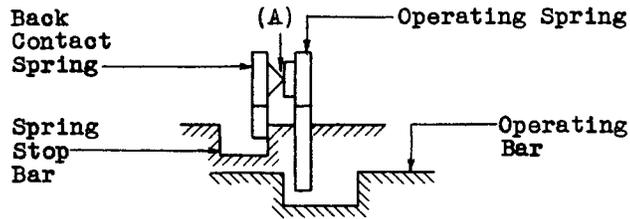

Fig. 15
**2.11 Pressure of Operating Spring Against Back Contact Spring on Break and Transfer Spring Combinations - Figs. 15 (A) and 16 (A) - With the operating bar in the normal position, this pressure shall be:**